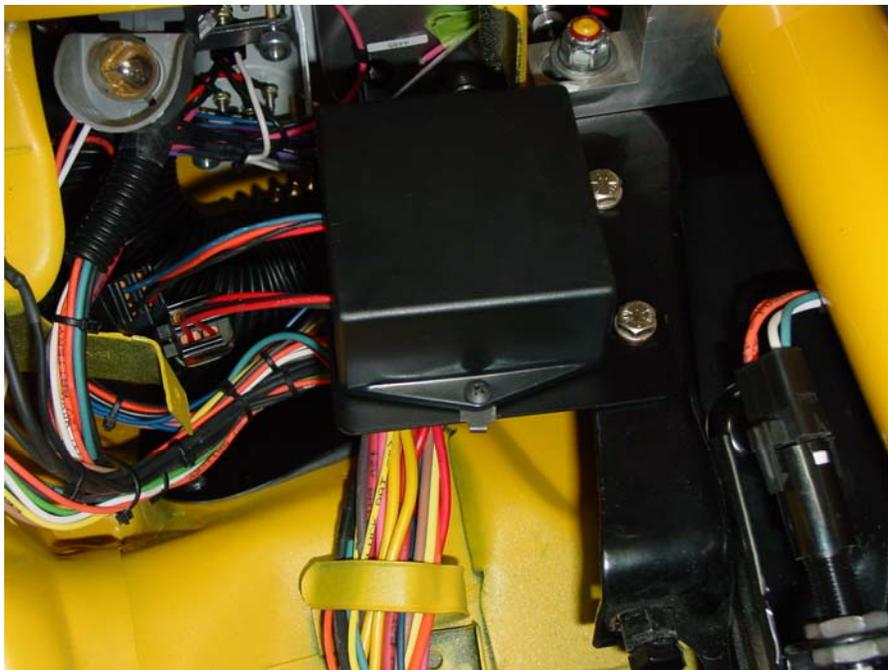

Figure 3 - Module Mounted in Place
2. Using the marks from the previous step, drill two 5/16" diameter holes in the support bracket. Slide the two included U-nuts over the drilled holes. Attach the module mounting plate to the support bracket using the two black oxide 1/4" diameter bolts and washers. The finished, mounted module assembly is shown below in Figure 3.